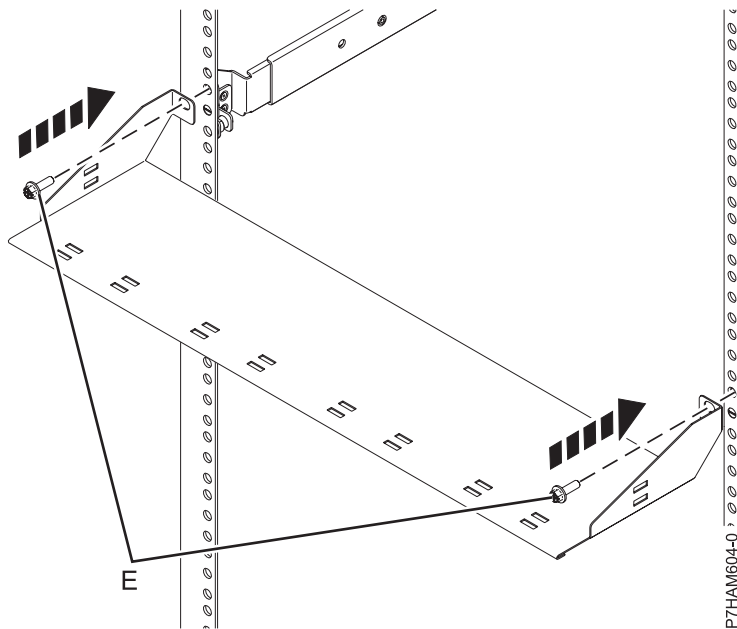

Figure 7. Mounting the cable management bracket
- g. At the rear of the rack, hold the cable management bracket up to the rear rack flanges, aligning the bracket mounting holes to the top holes of the EIA containing the enclosure, as shown in Figure 7. Apply the securing screws (E) through the bracket mounting holes and into the top EIA holes on the rack flanges.